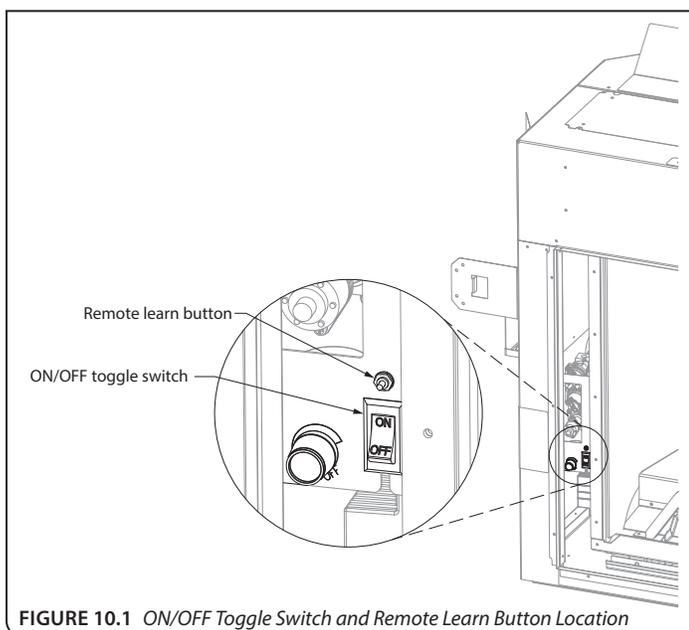

FIGURE 10.1 ON/OFF Toggle Switch and Remote Learn Button Location
2. Locate the remote sync button on the control module access switch on the left side of the fireplace. See **FIGURE 10.1** below.
3. Press the remote sync button. The IFC module will BEEP (3) times and illuminate an amber LED. This indicates the receiver is ready to synchronize with the transmitter.
4. Within (5) seconds, push the ON/OFF button on the remote control. The receiver will BEEP (4) times to indicate the transmitter's command is accepted, and is set to the transmitter's particular code. The pilot will automatically ignite.